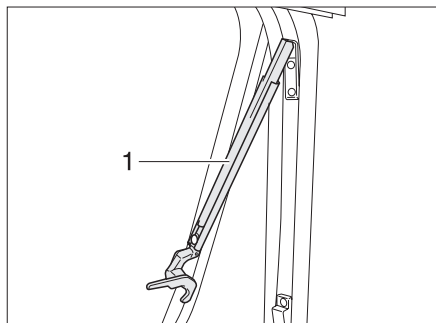

Fig. 35 Hinged window with automatic hinges, open
- ▶ Open the hinged window to the desired latched position. The automatic hinge (Fig. 35,1) locks in place automatically.